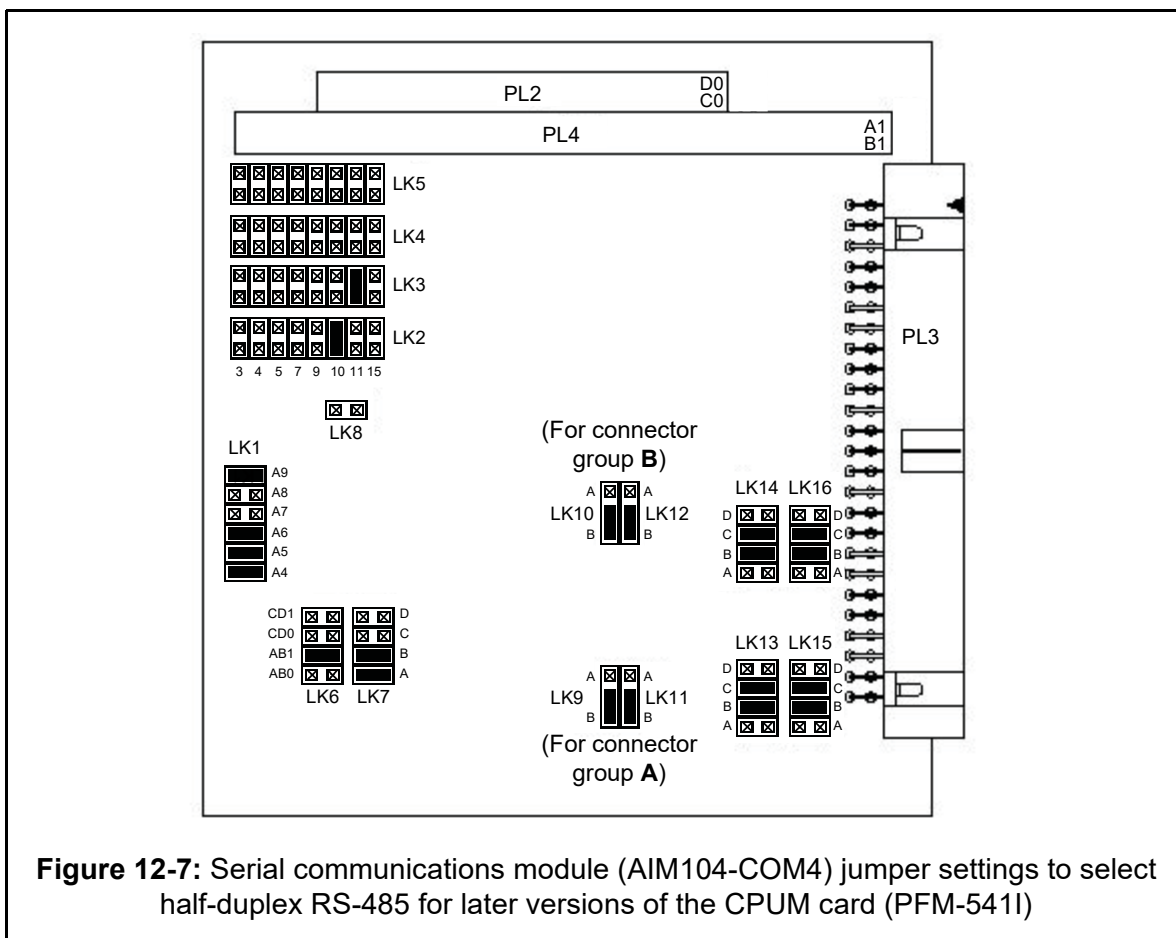

Figure 12-7: Serial communications module (AIM104-COM4) jumper settings to select half-duplex RS-485 for later versions of the CPUM card (PFM-541I)
As shown in Figure 12-7, Figure 12-8, Figure 12-9 and Figure 12-10, jumper groups LK1, LK2, LK3, LK4, LK5, LK6, LK7 and LK8 are used to configure factory settings and do not need to be changed by the user.
- For later versions of the CPUM card fitted with the PFM-541I or equivalent CPU module, the jumpers and terminations should be set as shown in Figure 12-7.